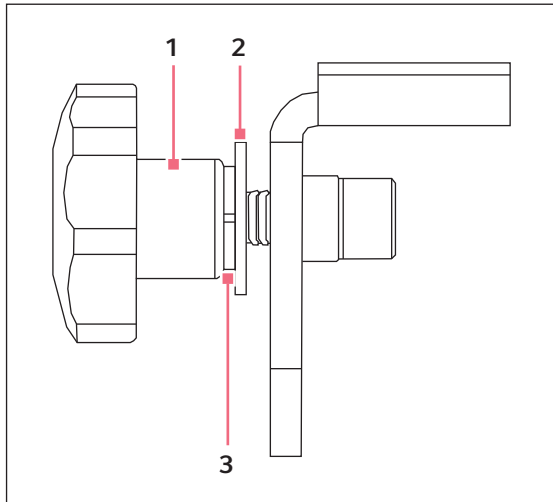

Fig. 1-3: Knob
6. When the platform is fully inserted and mated to the subplatform, install the flat washer and the lock washer as shown, and then screw the removable knob onto the screw; tighten appropriately (see Fig. 1-3 on p. 5).